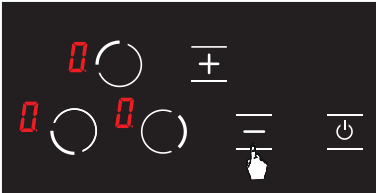

Figure 26
3. Press the  key again. (see Fig. 26) This shall be performed right after the 2nd step. Child lock is deactivated permanently. In other words, child lock shall continue to be deactivated even if the unit is turned off and on again.